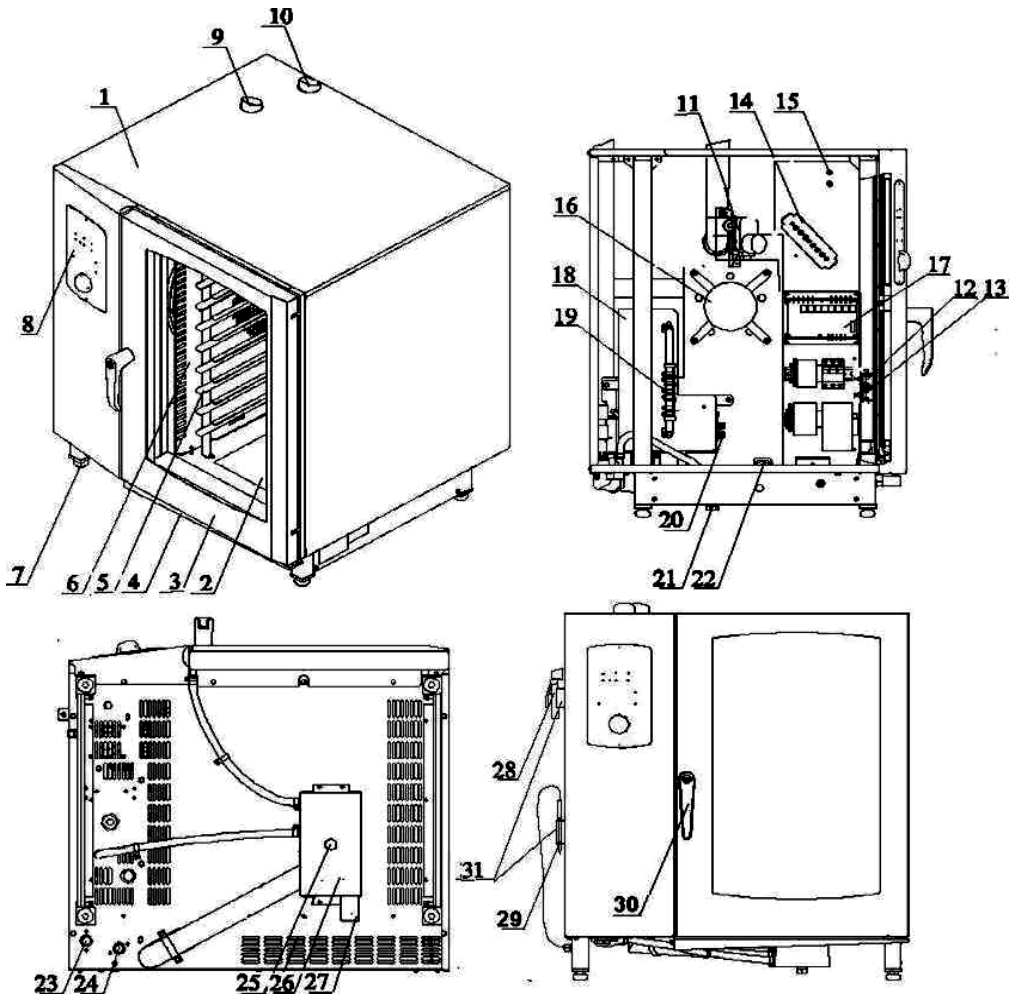

Fig. 1. Convection steamers “Rubicon” APK6-1/1 and APK10-1/1.
3.5. In order to ensure steam generation and discharged condensate cooling systems connect the article to a municipal water supply system via both valves: 23 and 24 (Fig. 1). Water quality should comply with the requirements of SanPiN 2.1.4.1074-01.
3.16. Arms 31 are provided on the left panel of the steamer to install the showering device and the probe (Fig. 1.)